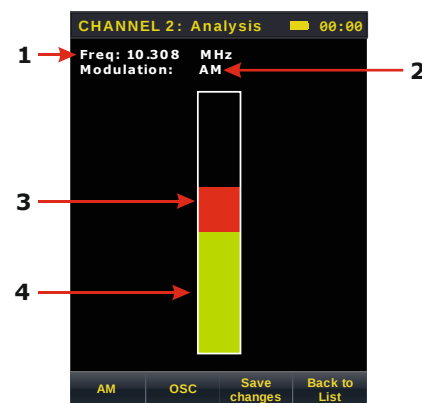

Figure 27
Mode screen is shown in Fig.27.
Control of the relative signal level according to the indicator (item 3, 4, Figure 27)
Adjust the center frequency of the signal (item 1 in Figure 27)	LEFT or RIGHT